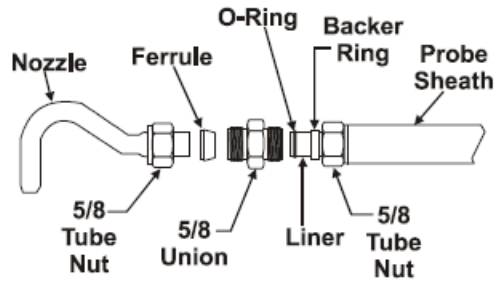

Figure 14 - Installation of Probe Nozzle Connectors
7. To install a Nozzle to the Probe Assembly, consult Figure 14. Slide the ferrule system onto the plain exposed end of the Probe Liner. High temperature braided glass cord packing should be substituted for the o-ring when stack temperatures are >260°C (500°F). The Probe Assembly Spare Parts Kit (bag taped to probe sheath) contains fittings for two (2) different ferrule installation options: 1) Stainless Steel Single Ferrule, and 2) Backer Ring with O-Ring. The recommended configurations with different liner options are detailed below: